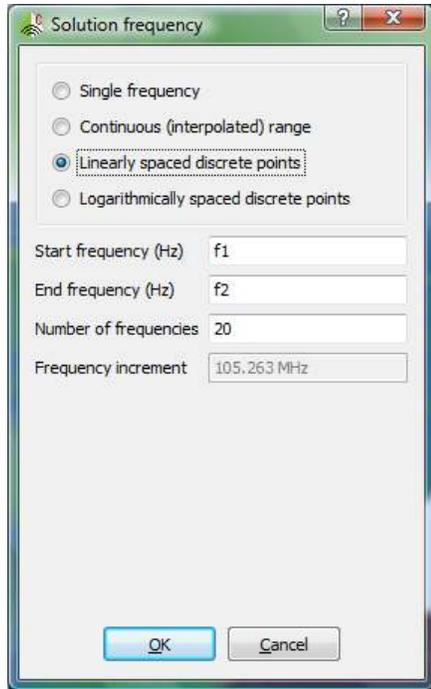

Figure 16.
19. Observe the created port in the geometry. After port creation, we need to specify the frequency of simulation. We will first examine the resonance of the antenna, and thus we are interested in an  $|S_{11}|$  measurement. We need to sweep the frequency between F1 and F2 as shown in Figure 16.